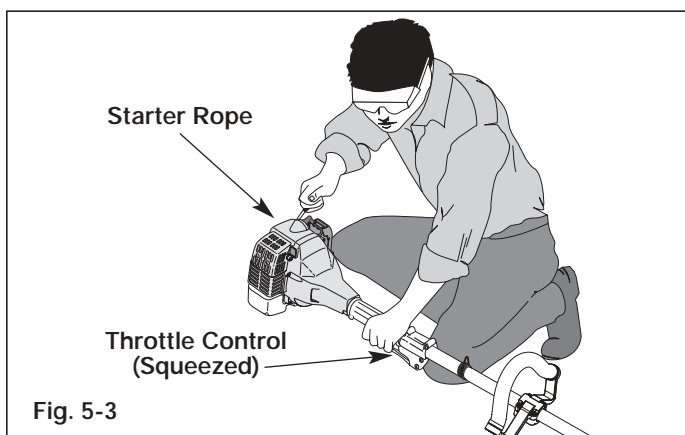

Fig. 5-3
Avoid accidental starting. Make sure you are in the starting position when pulling the starter rope (Fig. 5-3). To avoid serious injury, the operator and unit must be in a stable position while starting.
5. With the unit in the starting position (Fig. 5-3), squeeze the throttle control to the wide open (full throttle) position. Pull the starter rope briskly 5 times while still in the **START (I-I)** position. If the engine attempts to run before the fifth pull, proceed to step 6.
7. Pull starter rope 1 to 3 times, briskly, to start the engine (Fig. 5-3).
1. Release your hand from the throttle control (Fig. 5-3). Allow the engine to cool down by idling.